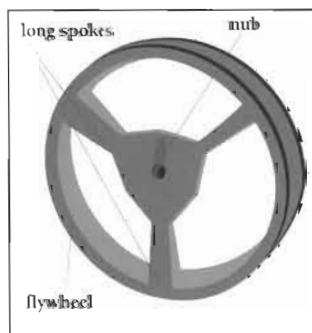

Figure 2
3. Identify the flat side of the flywheel. This is the side with the short nub. Figure 2 shows the flat side of the flywheel.